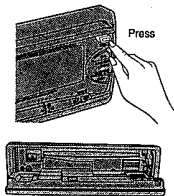

Fig. 4
- Press [OPEN]. The removable face plate will be opened. (→ Fig. 4)